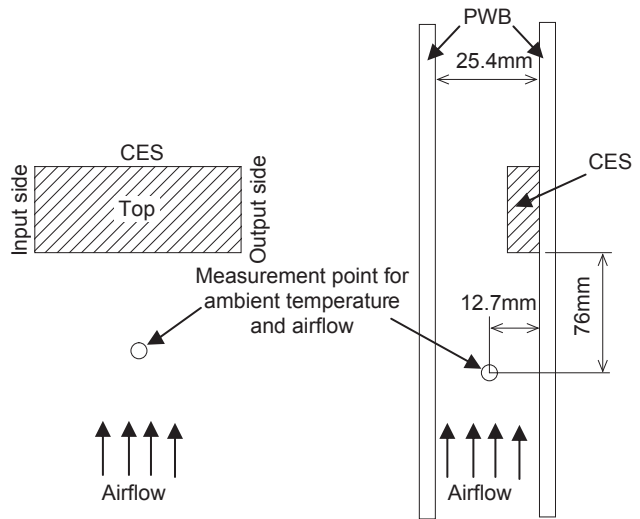

Fig.8.3 Measuring method
- Shown the thermal curve with measuring as shown in Fig.8.3.